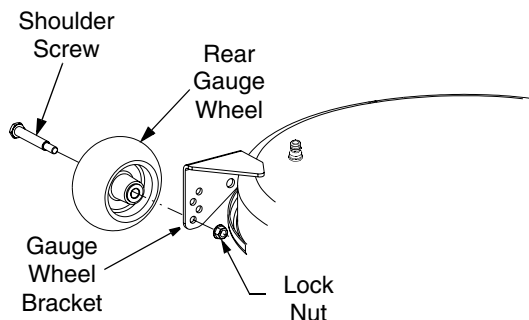

Figure 35
- Remove the lock nut securing one of the gauge wheel shoulder screws to the deck. Remove the gauge wheel and shoulder screw. See Figure 35.